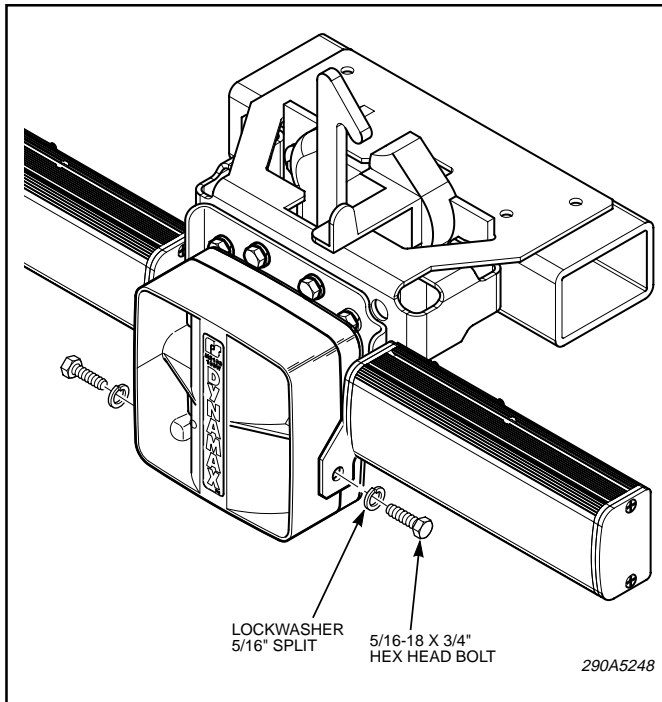

Figure 6.
4. Mount the speaker to the bracket using two 5/16-18 bolts and split lockwashers. Adjust the speaker so that the front face of the speaker is perpendicular to the ground. See figure 6.